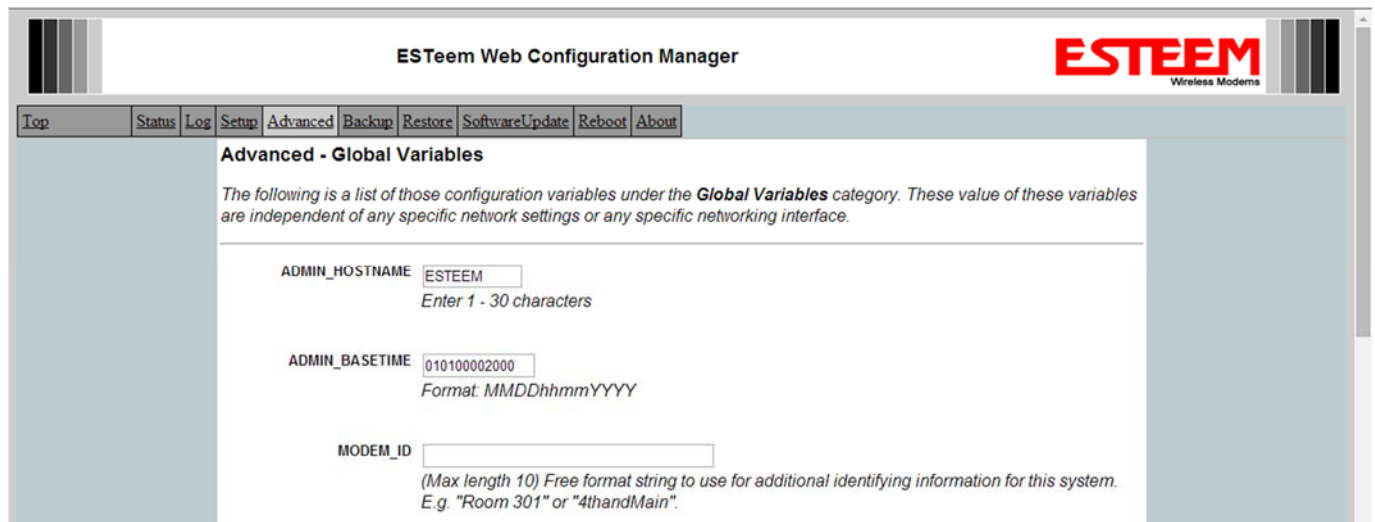

Figure 4: Modem ID Field in Global Variables Screen
2. Enter the text you would like displayed in the Modem ID field (Figure 4). When complete, press the *Save Settings* button and the *Commit Changes* button on the next screen to save the name to the 210.